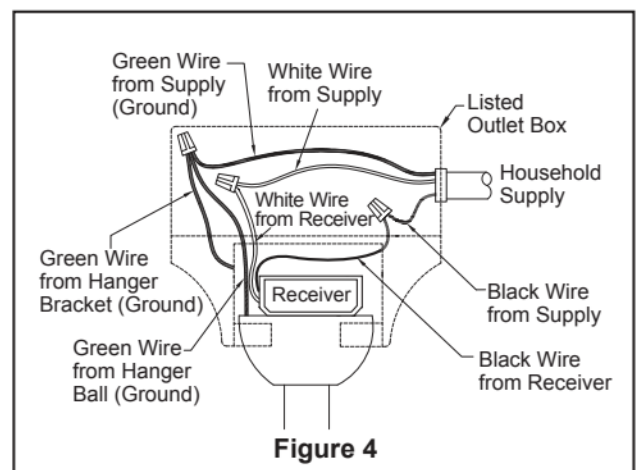

Figure 4
3. After connections have been made, the wires should be spread apart with the grounded conductor and the equipment-grounding conductor on one side of the outlet box and the ungrounded conductor on the other side of outlet box, then turn leads upward and carefully push leads into the outlet box, with the white and green leads to one side of the box and the black leads to the other side. (Figure 4)